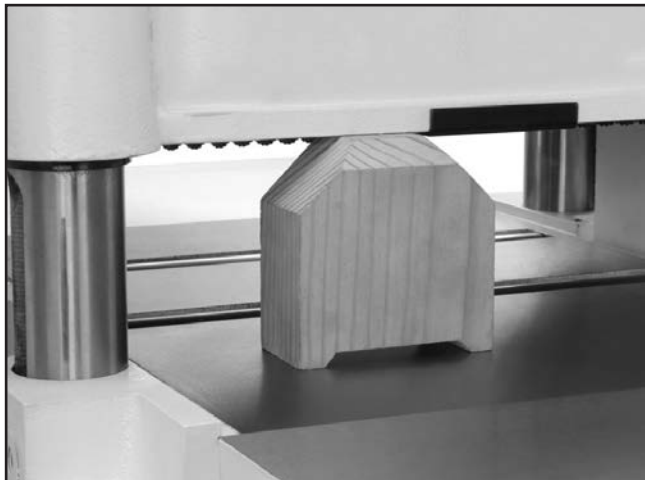

Figure 66. Block position.
5. Place the block under the front of the head casting, to either side of the depth limiter tab. Raise the table up so the block barely touches the head casting as shown in **Figure 66**.